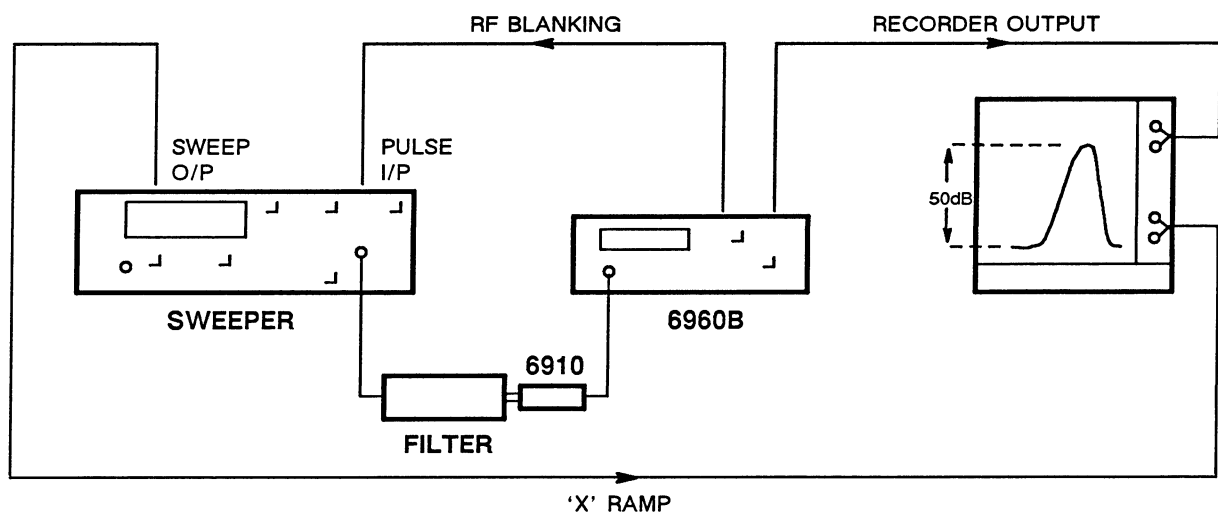

Fig. 3-5 A typical measurement set up using recording and RF blanking facilities of 6960B
- Recording – Use the RECORDING OUTPUT to obtain the full 50 dB dynamic range of the power sensor, including all correction factors. (see Fig. 3-5).
- RF blanking – Use this BLANKING OUTPUT to turn off the source RF while an AUTOZERO is performed. This enables the RF Sensor to remain connected in the system. (see Fig. 3-5).